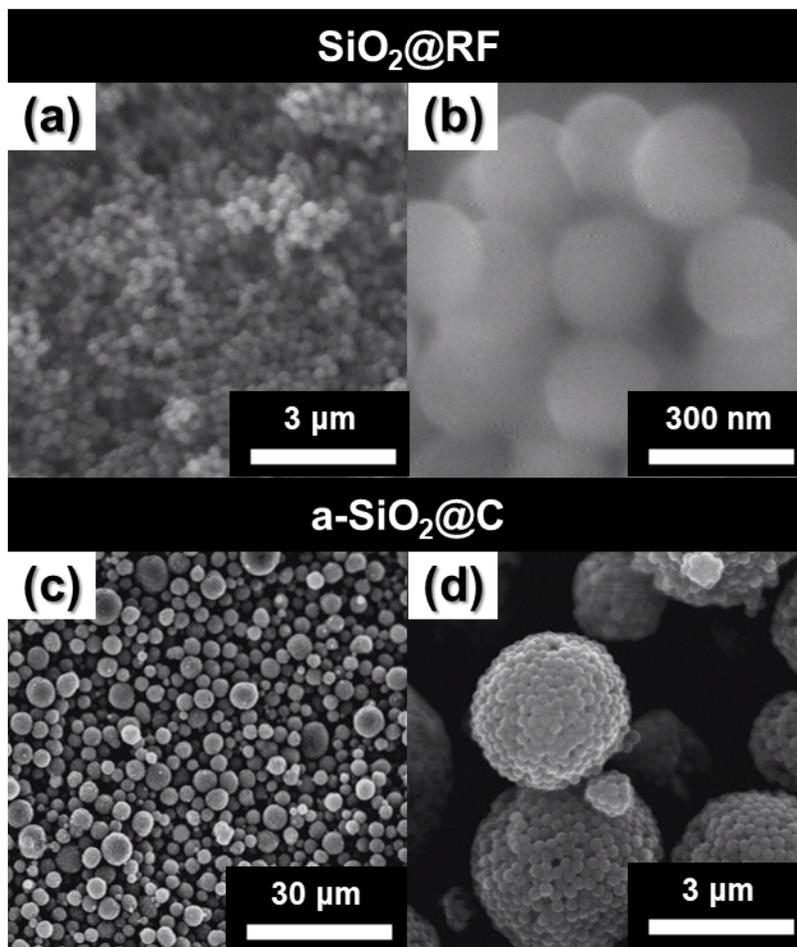

Figure S1 SEM images of SiO₂@RF precursor (a, b) and the derived a-SiO₂@C microstructures (c, d).
- **Figure S1** SEM images of SiO₂@RF precursor (a, b) and the derived a-SiO₂@C microstructures (c, d).